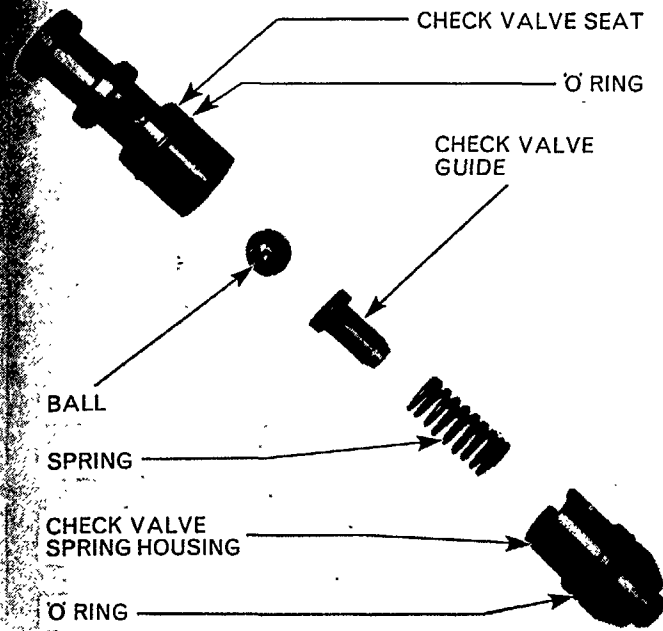

Figure 31
3. With a pair of long nosed pliers remove the check valve spring housing complete with spring, check valve guide and ball from the lift cover. Remove the 'C' ring, Figure 31.